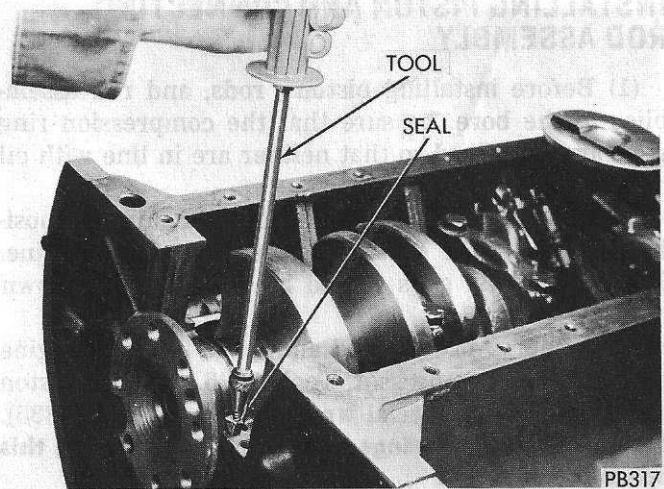

Fig. 46—Removing Upper Oil Seal with Tool C-414B
(3) Remove upper rope seal by screwing Tool C-4148 into the end of the seal, being careful not to damage the crankshaft (Fig. 46). Pull the seal out with the tool while rotating the crankshaft.
(4) Oil seal lip lightly with engine oil.
(5) Hold seal (with paint stripe to the rear) tightly against crankshaft with thumb to make sure that the sharp edge of the groove in the block does not shave or nick the back of the seal, install seal in the block groove. Rotate the crankshaft, if necessary, while sliding seal into groove. **Care must be exercised not to damage the sealing lip.**
(6) Install other half of the seal into the lower seal retainer with paint stripe to rear.
(7) Install rear main bearing cap, tighten to 85 ft. lb. (115 N·m). **Do not use sealer or cement on seal ends or lip.**